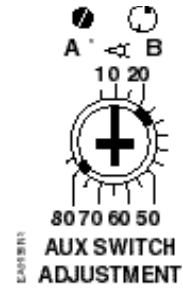

Figure 6.
2. If the valve or the blades will rotate counter clockwise, slide the manual override switch to manual, and move the adjustment lever to the right. Return the switch to automatic. See Figure 6.